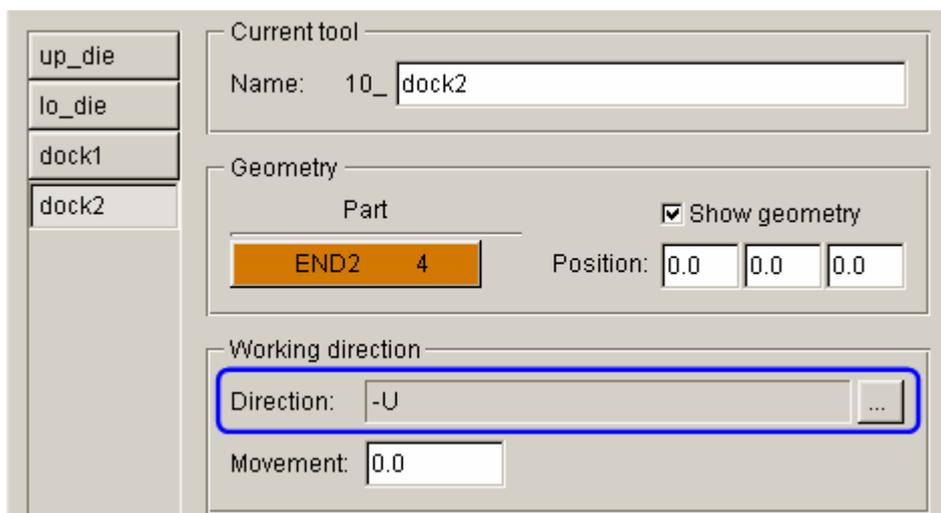

Figure 3.27 Define dock2
26. Click on **X** button to set the vector of working direction as **-1**. See Figure 3.27.